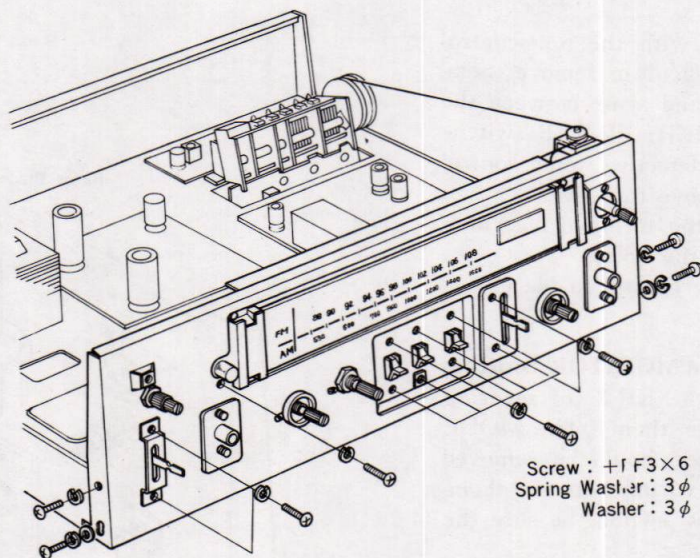

Fig. 2-4 Front panel assembly
4. Loosen the two screws (+RF 3×6) at each side of the chassis as shown in Fig. 2-4.
Remove the front panel as described in Paragraph 2-2, then perform the following procedures. Refer to Fig. 2-4 during these procedures.